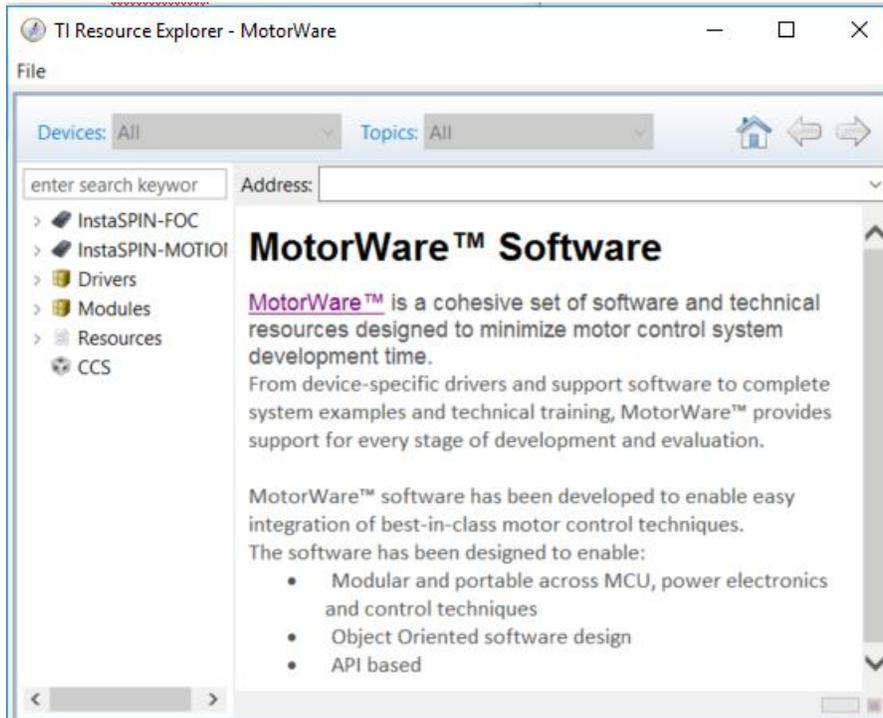

Figure 2. MotorWare™ Software–Overview
3. Motorware can be easily browsed by running MotorWare.exe from the installation directory (see Figure 2).